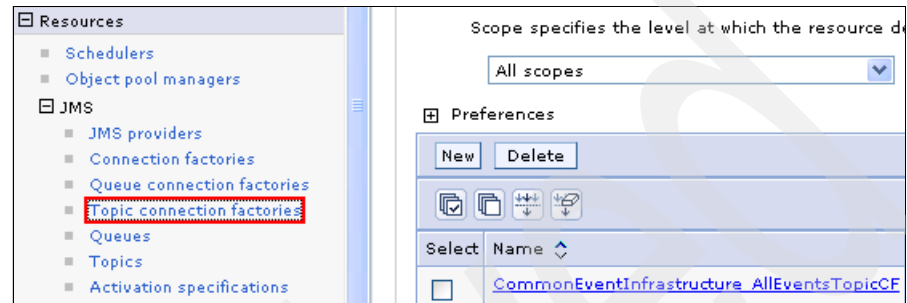

Figure A-51 Navigating to Topic connection factories for WebSphere Business Monitor
1. In the WebSphere Business Monitor administration console, expand **Resources** → **JMS** and click **Topic connection factories** (Figure A-51). In the right pane, select **CommonEventInfrastructure_AllEventsTopicCF**.